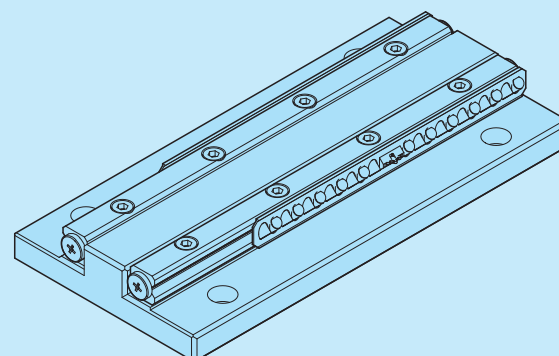

Fig. 18
- Position the roller cages at the stroke end positions of the bed-side way. (Refer to Fig. 18)